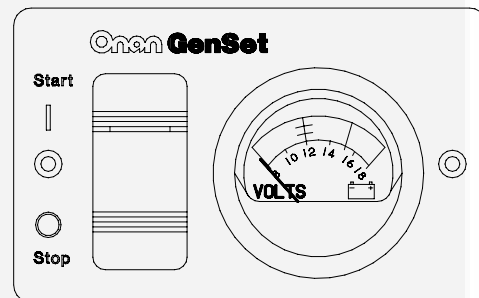

FIGURE 13. REMOTE SWITCH / DC VOLTMETER
- Remote switch / status lamp and DC voltmeter (Figure 13).